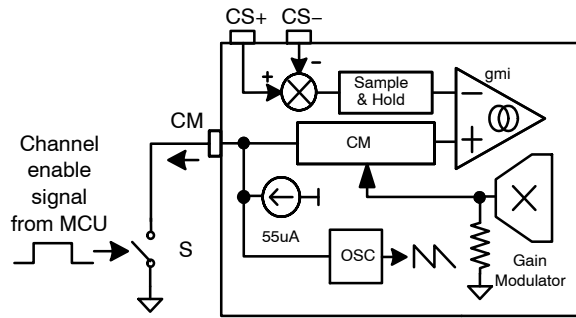
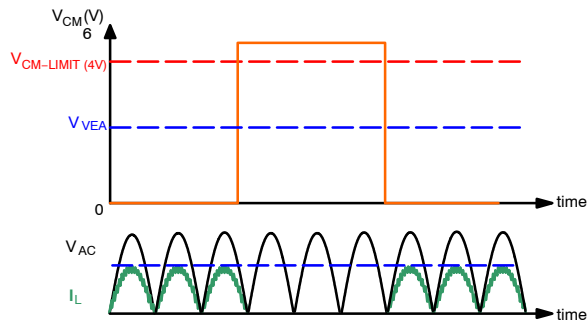

Figure 14. Channel Management by MCU
Figure 15. Channel Management by MCU
Channel Management (CM) function can also be accessed by an MCU through the connection shown in Figure 14. CM pins have internal pull-up current source. If  $V_{CM} > 4$  V, the channel is disabled. To enable the channel, make  $V_{CM} = 0$  V, as shown in Figure 15.